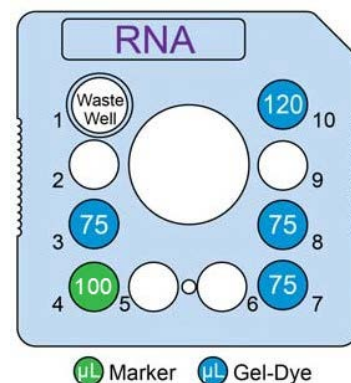

Figure 2. High-Throughput Chip Preparation
2. Add prepared Gel-Dye to chip wells 3, 7, 8 and 10 (as shown in Figure 2) using a Reverse Pipetting Technique.
3. Add **100 µL** RNA Pico Marker ● to chip well 4 (as shown in Figure 2).